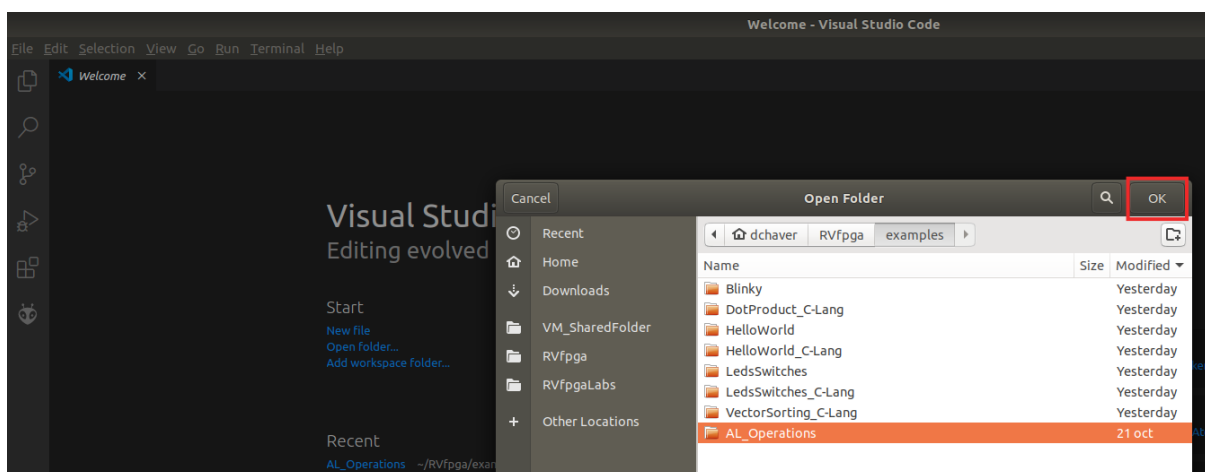

Figure 102. Open AL_Operations folder
5. Select the PlatformIO project that you are going to use. In this section, as an example, we use *AL_Operations*, the first example mentioned in Table 9, that you will debug in the next section, but you could follow the same steps with any other example. Thus, select directory *AL_Operations* (do not open it, but just select it – see Figure 102) and click OK at the top of the window. PlatformIO will now open the example.